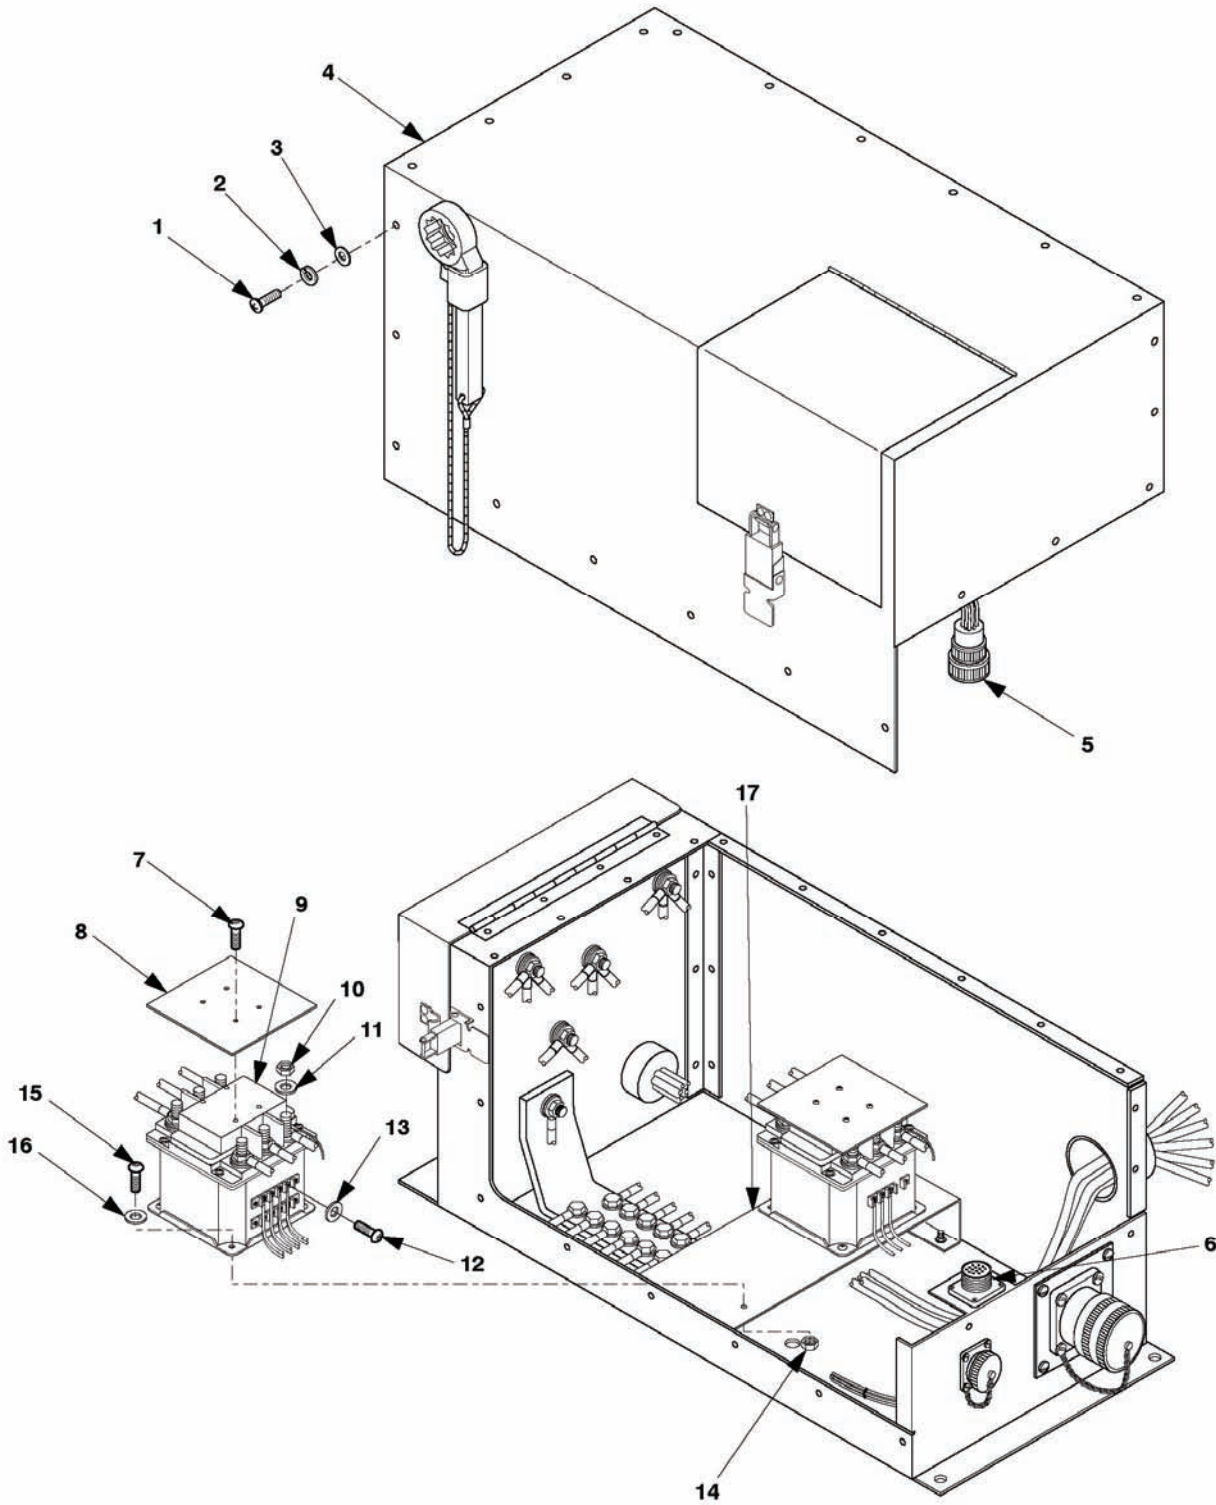

Figure 5-14.1. Contactor Maintenance (A Model).
1. Remove screws (1, figure 5-14.1), lock washers (2), and flat washers (3) that secure switch box cover (4) to switch box assembly. Discard lock washers (2).